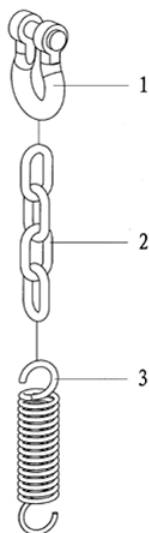

Fig. 29
7.3 Lifting Chain Assembly (Fig.29, Table.24)